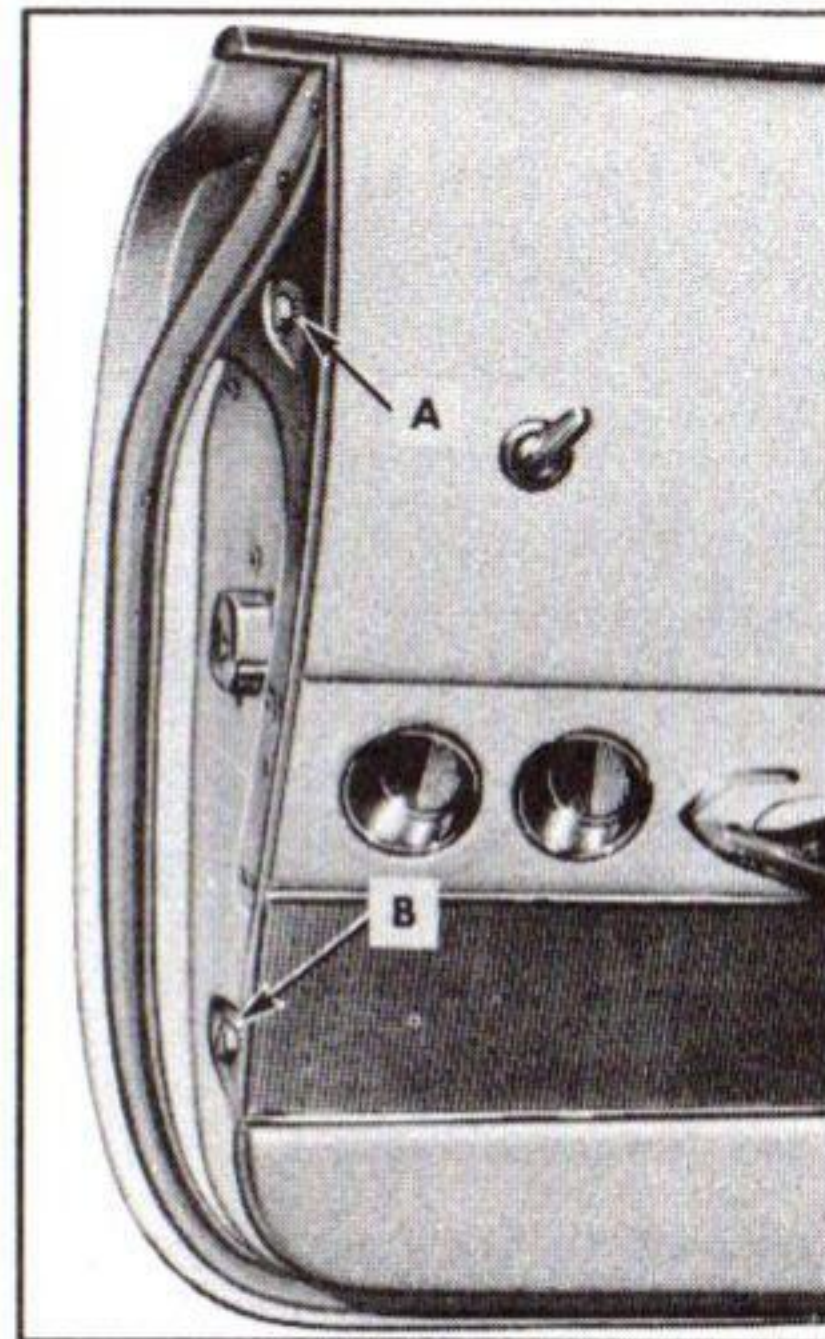

Fig. 79—Window Adjustment
1. Loosen screws "A" and "B," (fig. 79).